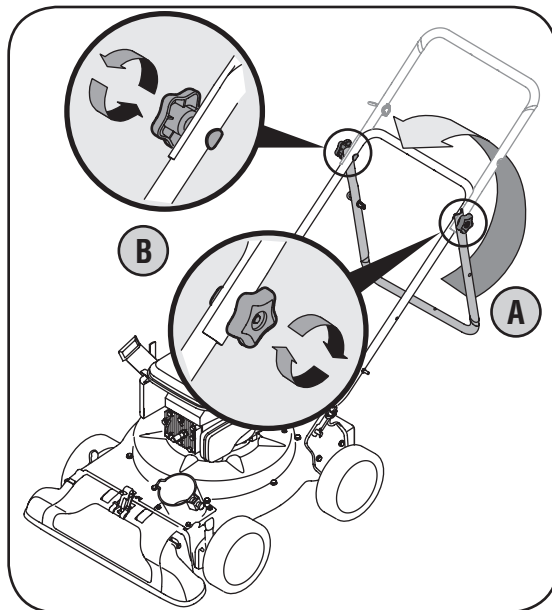

Figure 3-2
- Unfold the upper handle until it aligns with lower handle. Make sure the rope guide is on the right side of upper handle. See Figure 3-2.
- Secure the two handles by tightening the star knobs (carriage bolts must be seated properly into the handle). See Figure 3-2.